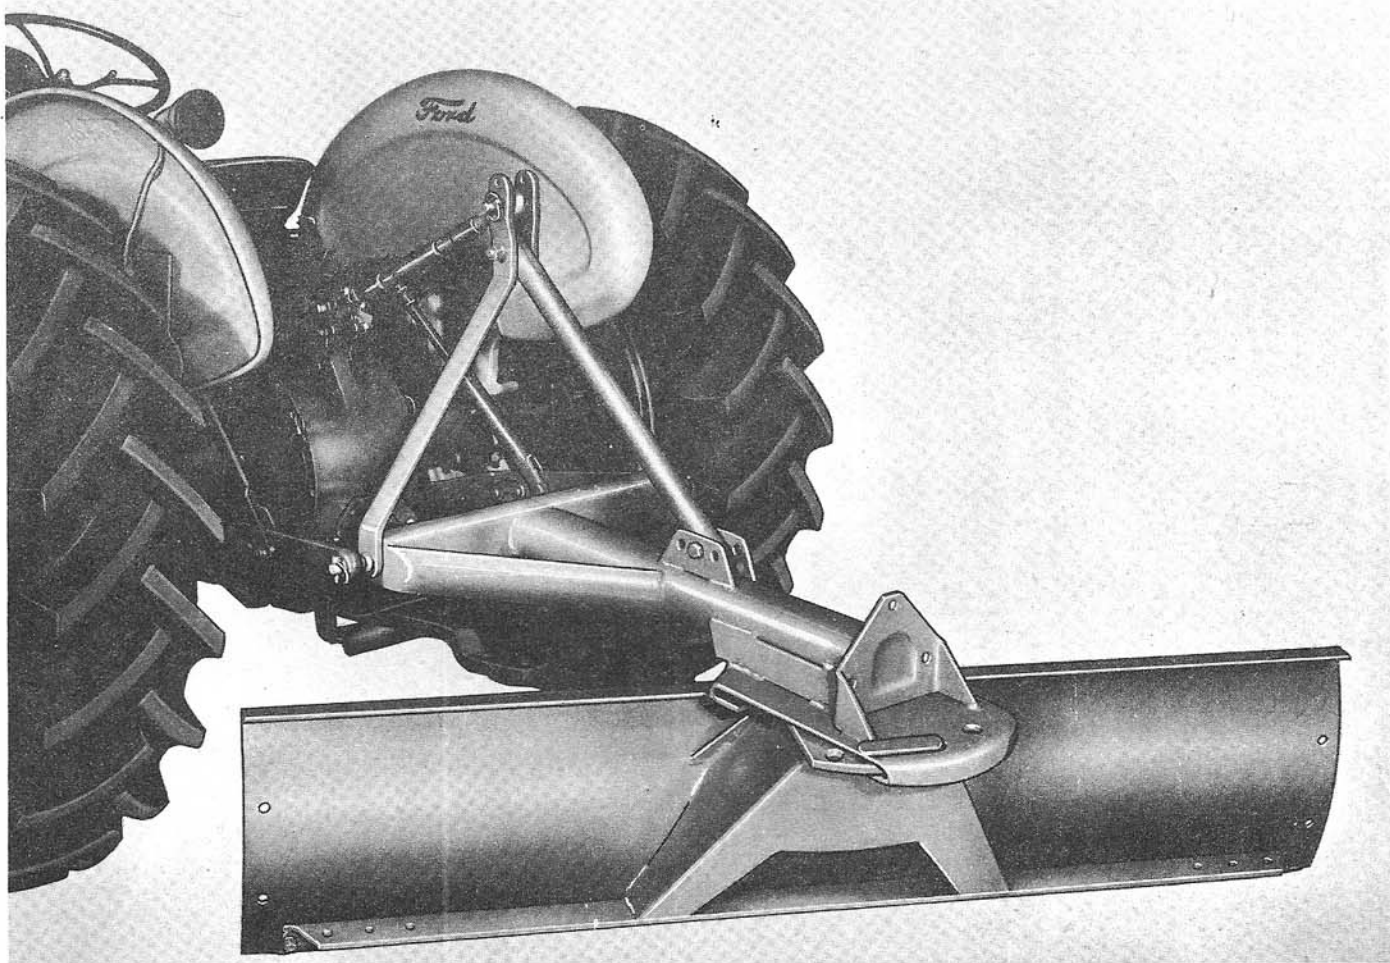
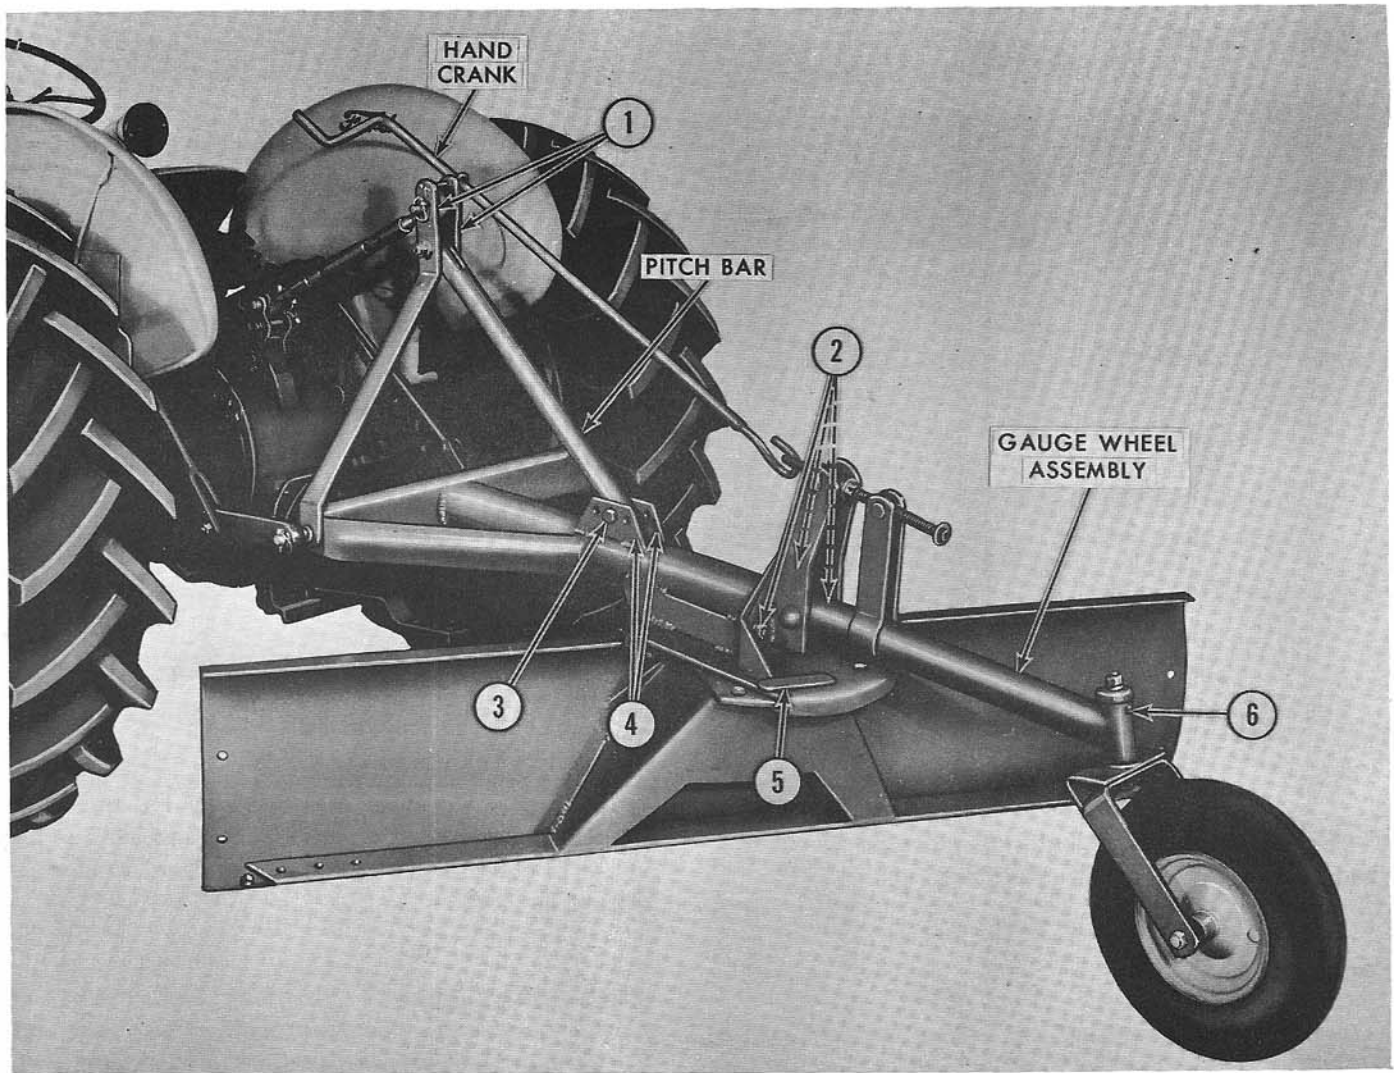

Figure 1
Figure 3
The Ford Utility Blade, Model 19-344, Figure 1, is a sturdy, lightweight implement that is easily mounted on tractors equipped with a Category I three-point hitch. The compact mounting of the utility blade allows maximum use in cramped working areas. The blade is well adapted to jobs that require scraping, leveling, or cutting. This includes building and maintaining roads, cutting ditches, terracing, snow removal, cleaning feed lots or barnyards, and back-filling erosion gullies or ditches.
Attach the blade to the tractor three-point hitch, as shown in Figure 1, and secure with the linch pins provided. Attach the top link to the tractor rocker arm. For heavy grading, attach the top link in the lower hole of the tractor rocker arm. The upper hole setting permits additional force to be applied to the draft control spring and compensates for lighter pull of the blade during finish grading. With the pitch bar positioned in the middle hole as shown at (3), Figure 3, the tractor top link should be adjusted to provide a level blade frame position. However, finish grading may require a pitch adjustment, which is accomplished by adjusting the pitch bar. See "ADJUSTMENTS."
position and lock it in place. This is accomplished by removing the drop pin (5), Figure 3, and rotating the turntable assembly 180°.
Seven holes are provided for angling the blade; five in the forward position and two in the reverse position. In the forward position, the blade can be angled horizontally to 45° each side of center, in 15° increments. In the reverse position, the blade can be angled 15° each side of center. Remove the drop pin (5), Figure 3, swing the blade to the desired angle or reversed position, then insert the pin into the hole in the turntable.
The pitch of the blade can be changed by removing the bolt (3), Figure 3, and moving the pitch bar to any of the three holes in the adjustment bracket (4). After selecting the desired blade pitch, replace the bolt. Intermediate pitch adjustment is also possible with the tractor top link.
The depth of cut is controlled by the tractor hydraulic system. When a gauge wheel assembly is used, depth is controlled with the gauge wheel hand crank, Figure 3.
The blade can be reversed for various backfilling operations. To reverse the blade, remove the gauge wheel (if so equipped) and install a drawbar stabilizer kit, available as extra equipment. Then, remove the drop pin (5), Figure 3, rotate the turntable 180° and secure it with the drop pin.
The gauge wheel assembly, Figure 3, is mounted on the rear of the blade assembly to provide more accurate depth control where desired.
A lubrication fitting is provided on the gauge wheel assembly (6), Figure 3. This fitting should be lubricated daily when the blade is in use, and before storing the blade. A few drops of oil applied occasionally on the adjusting screw will keep it free and easy to use.
1. Remove the pitch bar, Figure 3, from the frame assembly. Swing the two "A" frame braces (1) to the upright position as shown.
2. Position the pitch bar, Figure 3, as shown. Secure the flatted end of the bar to the "A" frame braces (1) with the 5/8" - 11 x 3" bolt, lock washer, and nut provided.
3. Secure the lower end of the pitch bar to the adjustment bracket (4), Figure 3, using a 5/8" - 11 x 3-1/4" bolt, lock washer, and nut.
6. If a gauge wheel assembly is used with the blade, position the gauge wheel frame as shown in Figure 3, and install the three bolts (2), lock washers, and nuts. Position the hand crank, and secure it with the pin and cotter pin as shown.